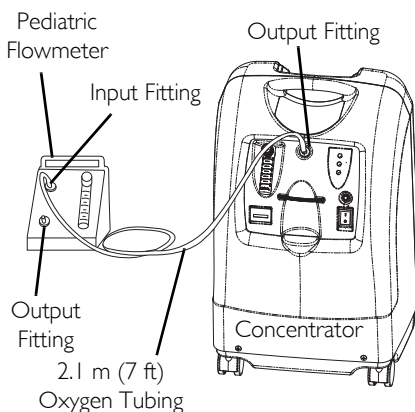
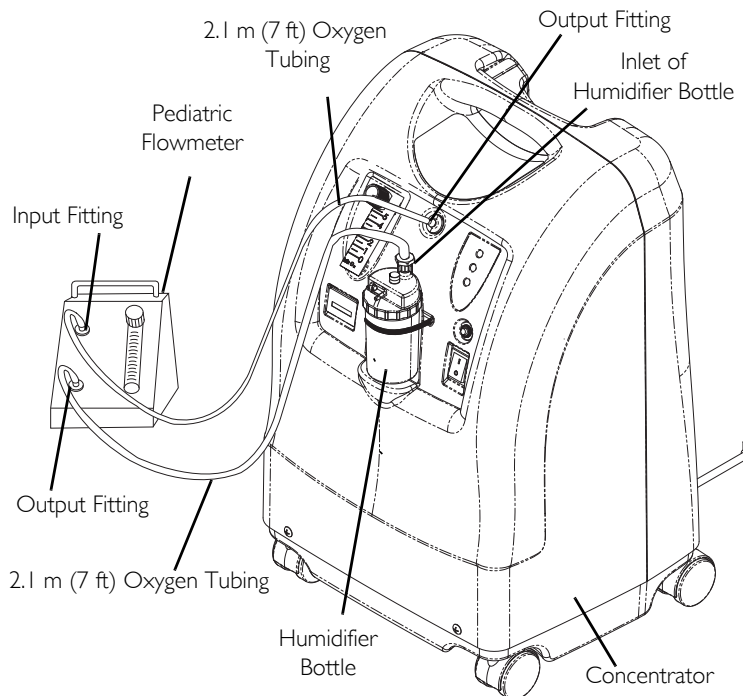

FIGURE 1 Typical Setup - Set Up If A Humidifier Bottle Is Not Prescribed
FIGURE 2 Typical Setup - Set Up With A Humidifier Bottle If Prescribed
① For this procedure, refer to FIGURE 1 or FIGURE 2.
① Allow concentrator to run a minimum of 10 min. to ensure proper concentration level.
① For this procedure, refer to FIGURE 1.
① For this procedure, refer to FIGURE 2.